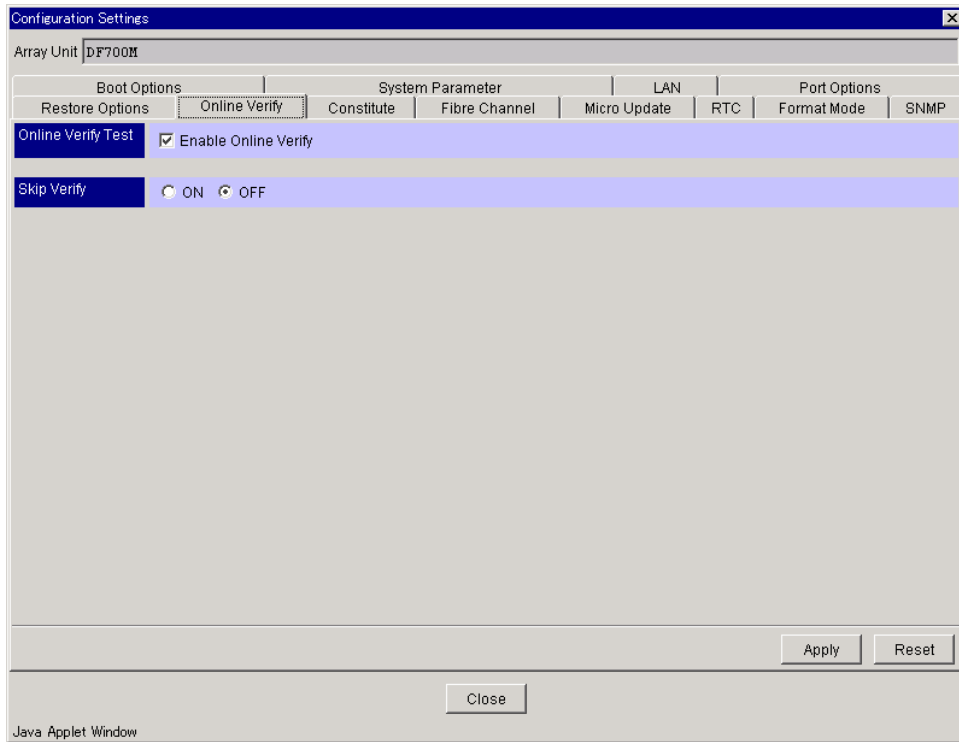

Figure 9.9 Configuration Settings - Online Verify
2. Click the **Online Verify** tab. See Figure 9.9.